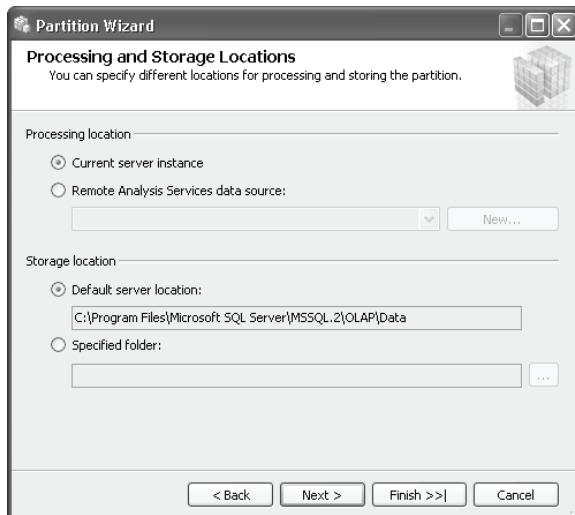

Figure 14.23 Use the Processing and Storage Locations step to configure the partition as local or remote.
4. Click Next to advance to the Processing and Storage Locations step (Figure 14.23).